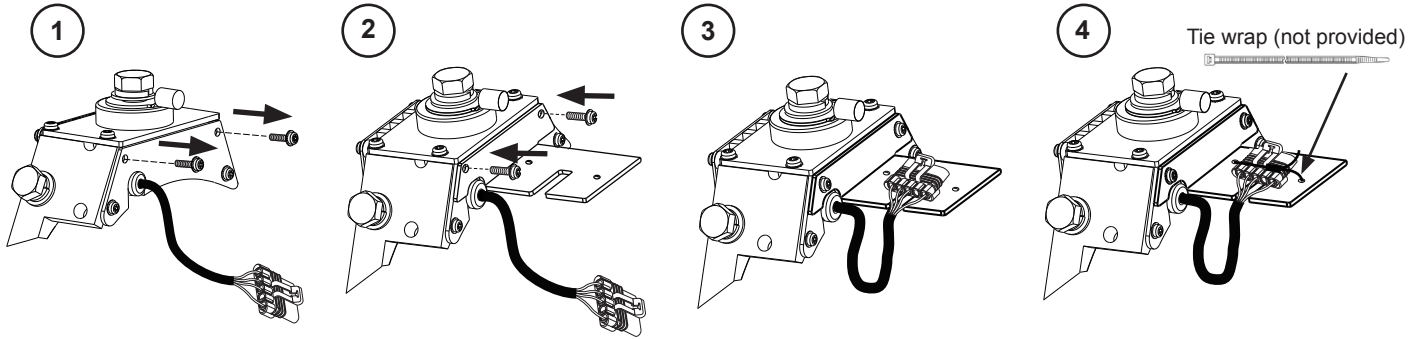

Figure 2: A4-037 Harness Support Bracket Installation
- a. Remove top two screws from control unit cover plate on C626 alternator. See Figure 2.